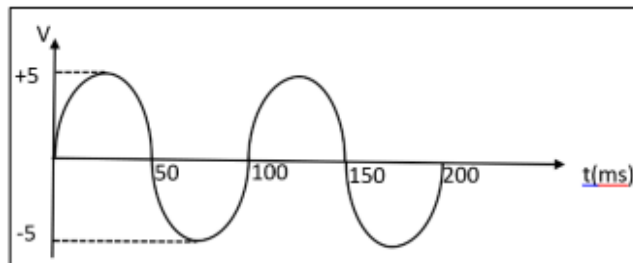

Figure 1
1. List TWO (2) laws related in generating of alternating current.
2. Write the equation for the sine wave in Figure 1.